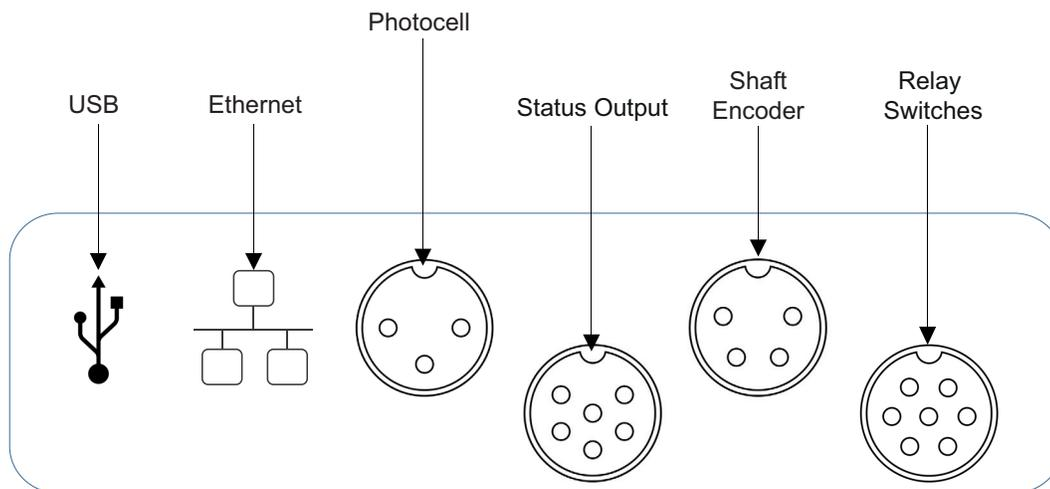

Figure 4-26: Standard IO
2. Connect the shaft encoder cable to the shaft encoder connector. Figure 4-26 shows the shaft encoder connector on the Standard IO.